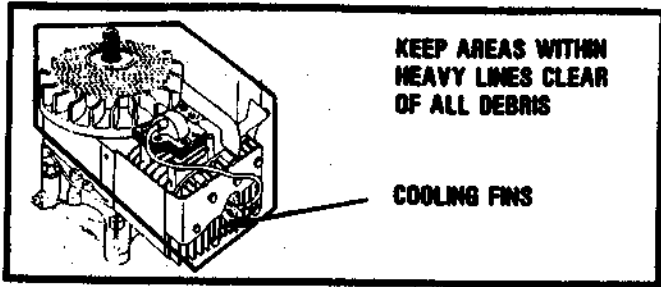

FIGURE 6
ENGINE COOLING SYSTEM — FIGURE 6
- To avoid overheating and possible engine damage, periodically remove the shrouding from around the cooling fins, Figure 6, and clean the area shown within the heavy black line of all grass, dirt or chaff accumulation.